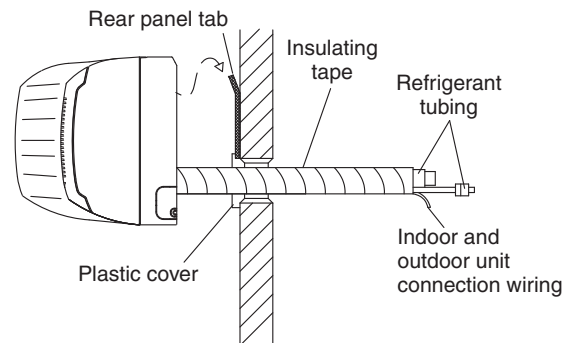

Fig. 3-166
- (1) Shape the refrigerant tubing so that it can easily go into the hole. (Fig. 3-166)
- (2) After performing a leak test, wrap both the refrigerant tubing and drain hose together with insulating tape. The drain hose should be positioned below the refrigerant tubes, and should be given sufficient space so that no strong tension is applied to it.
- (3) Push the wiring, refrigerant tubing and drain hose through the hole in the wall. Adjust the indoor unit so it is securely seated on the rear panel.